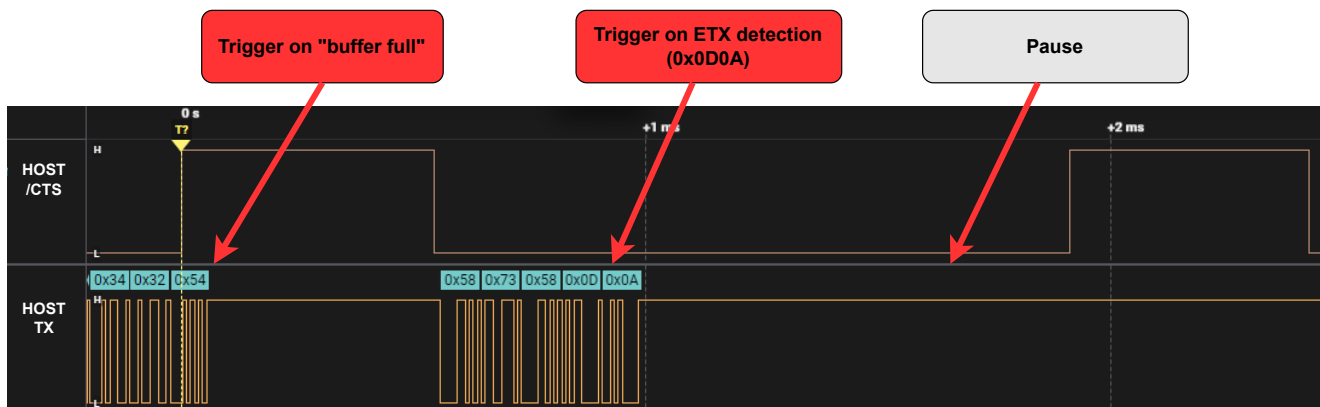

Figure 34: Trigger Bluetooth® LE transmission
- the two `UART_TransparentReceiveETX` characters are received by the radio module's UART, followed by a pause (see screenshot in Figure 34). The required pause must be larger than 10 byte durations and 1 ms.